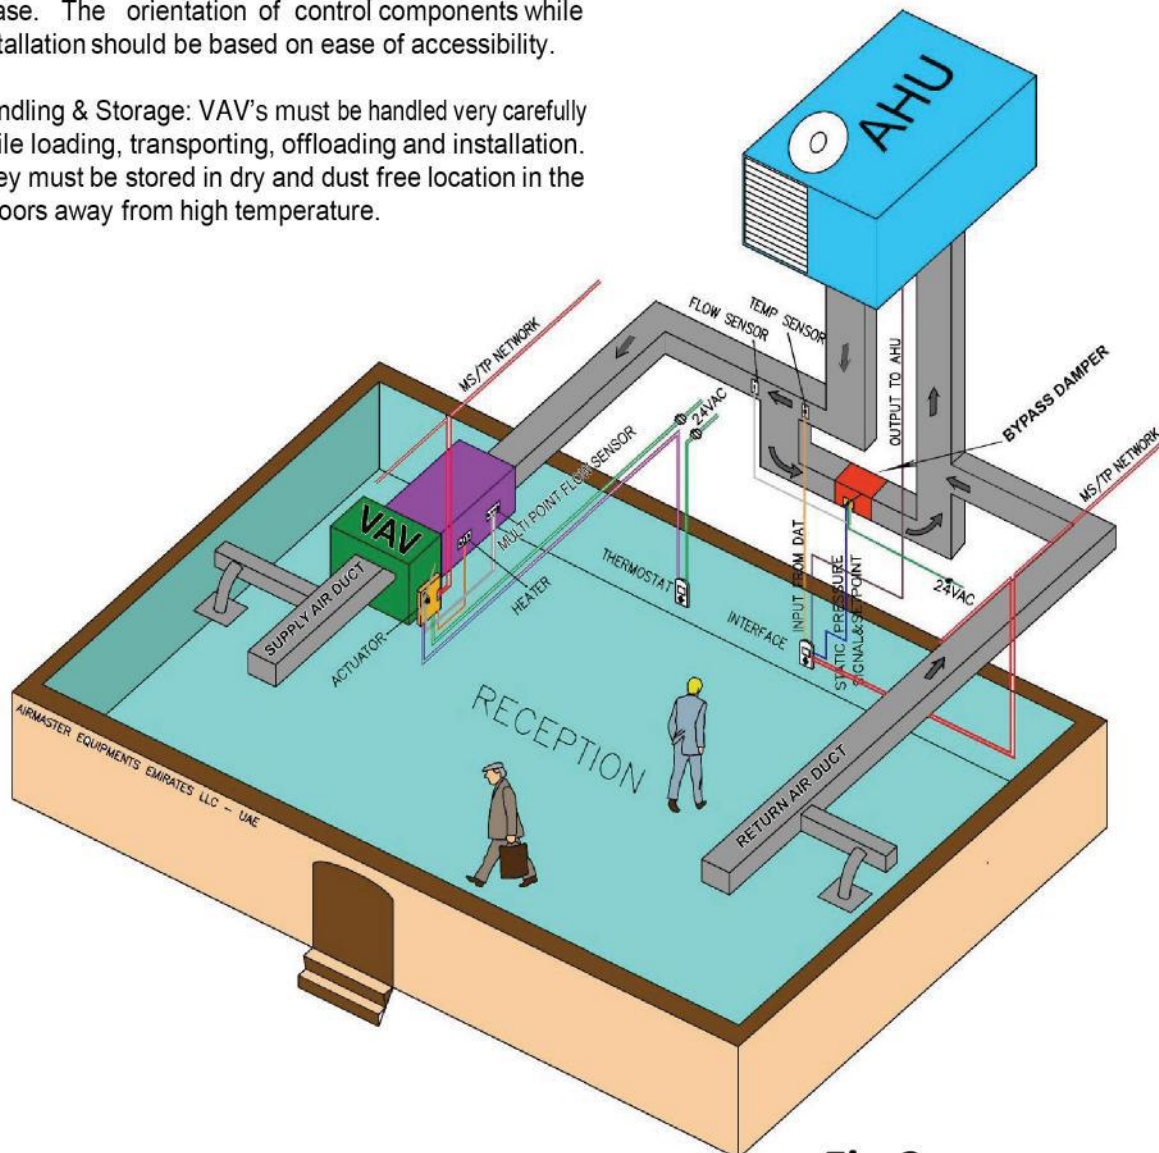

Fig:2
- e) Duct design with a Centralized Bypass Damper: During low load demand in the occupied zone, the actuator modulates the damper to close thereby increasing the duct SP drastically. This might be detrimental to the ducting system. Therefore, it is highly recommended to have a well-designed Bypass damper to eliminate excess duct pressure wherever Pressure Independent VAV system is used (refer to Fig2).